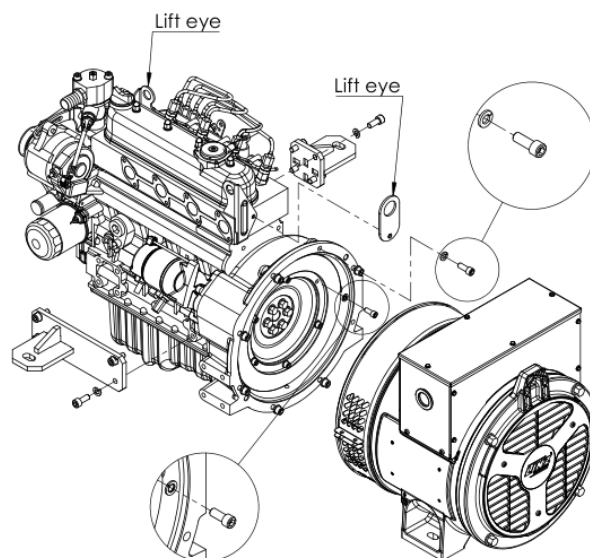

Figure 22: Mounting generator
- 5 The rotor can be taken off by removing the bolts in flywheel and flywheel housing. See figure 22